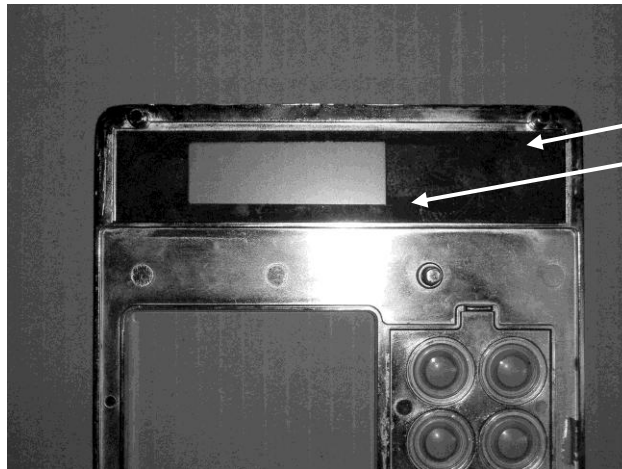

Figure 9. (view from back of panel)
7. Remove the display lens and replace with Retrofit display lens. Reuse tape if possible. Please see Figure 9 for correct orientation.